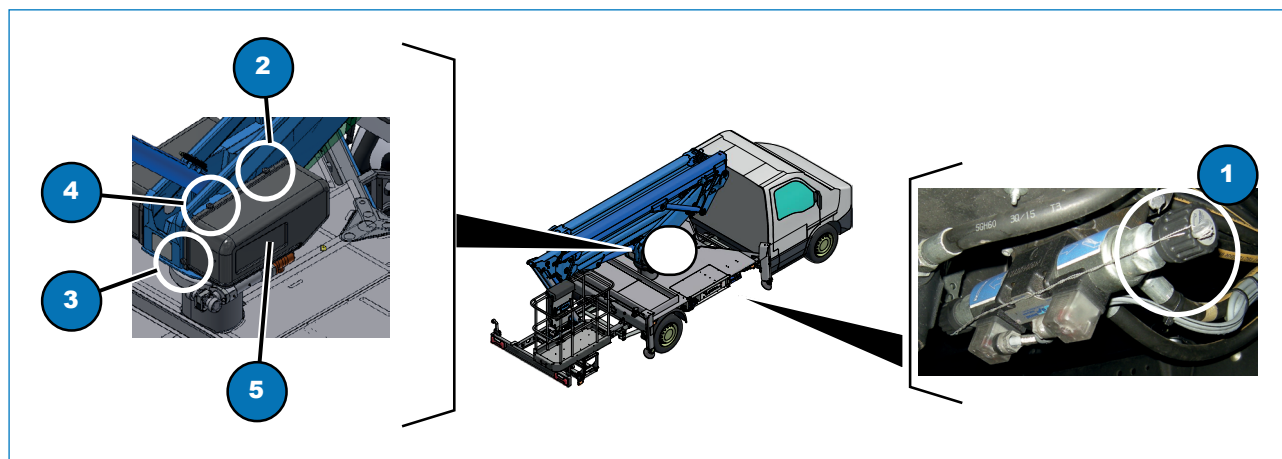

Fig. 7.3
- 1) Remove the key from inside in the turret (Fig. 7.3, 5) that is fastened using a lead wire seal.
- 2) insert the key in the selector switch (10) and turn it to the “emergency controls” position;
- 3) activate the control switch for the required movement and at the same time use the proportional joystick (17). Using the movement control switches with care, bring the work platform into its stowed position.
- 4) when finished, place the selector switch (10) in the central position;
- 5) remove the key from the selector switch (10).
- 1) remove the manual pump control lever (Fig. 7.3, 1) fastened in the ladder by unscrewing the black locking knob (Fig. 7.3, 3);
- 2) insert the handle onto the manual pump (Fig. 7.3, 2);
- 3) Remove the seal from the "stabiliser/work platform control" (Fig. 7.3 1) "stabiliser/work platform control" located close to the stabiliser controls.
- 4) completely remove the carter in the turret by unscrewing the black locking knobs (Fig. 7.3, 2, 3, 4);